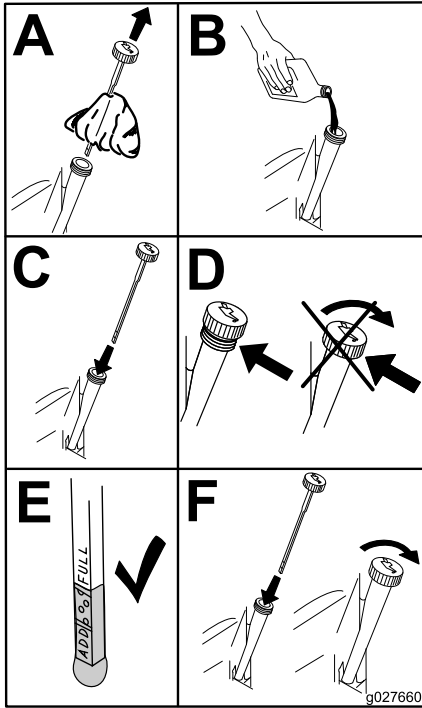

Figure 47
- Slowly pour approximately 80% of the specified oil into the filler tube and slowly add the additional oil to bring it to the **Full** mark (Figure 47).